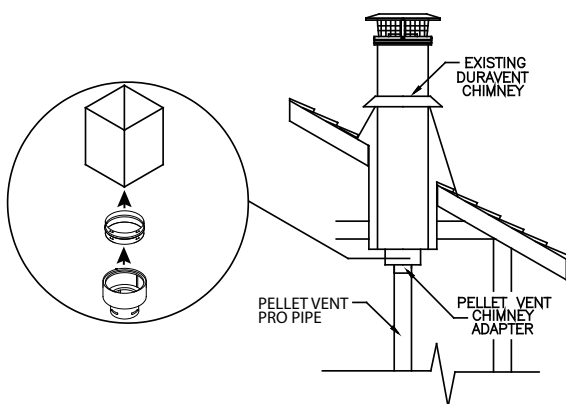

Figure 17
6. If it is desired to attach to an existing 6"-8" DuraTech, DuraPlus or DuraPlus HTC chimney, either roof supported or ceiling supported (**Figure 17**):